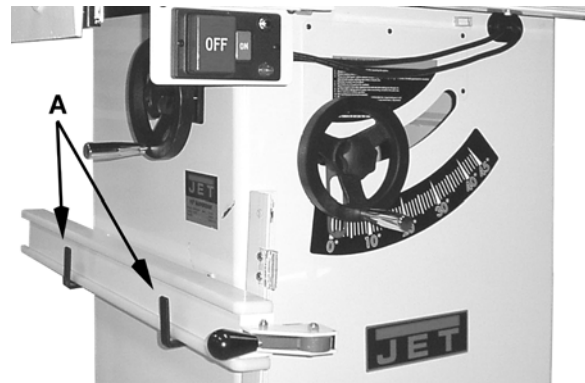

Figure 38
1. Mount the two fence hooks (A, Fig. 38) with two M8x16 carriage bolts, two M8 flat washers, two M8 lock washers and two M8 hex nuts.